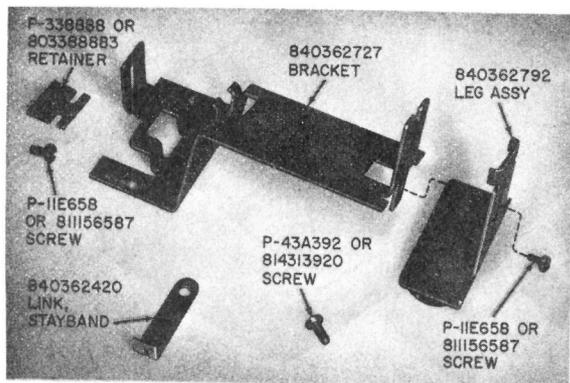

Fig. 6—D-180644 Kit of Parts
2.06 Install D-180644 Kit of Parts (Fig. 6) on 554B, 555B, 556B, or 558B telephone set as follows:
retainer and P-11E658 or 811156587 screw (Fig. 6 and 8).